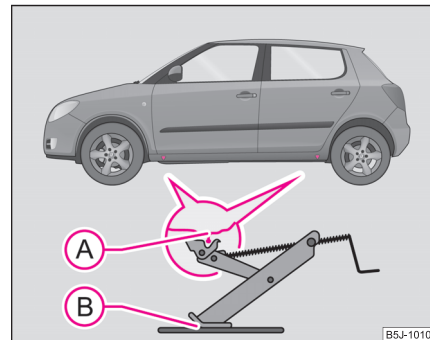

Fig. 160 Changing a wheel: Points for positioning car jack
- Position the lifting jack by selecting the jacking point - lower sill - which is closest to the wheel to be removed ⇒ **fig. 160**. ▶
- Align the lifting jack so that its claw grasps the web of the lower sill (A) and the moving base plate of the jack (B) is resting flat against firm ground.